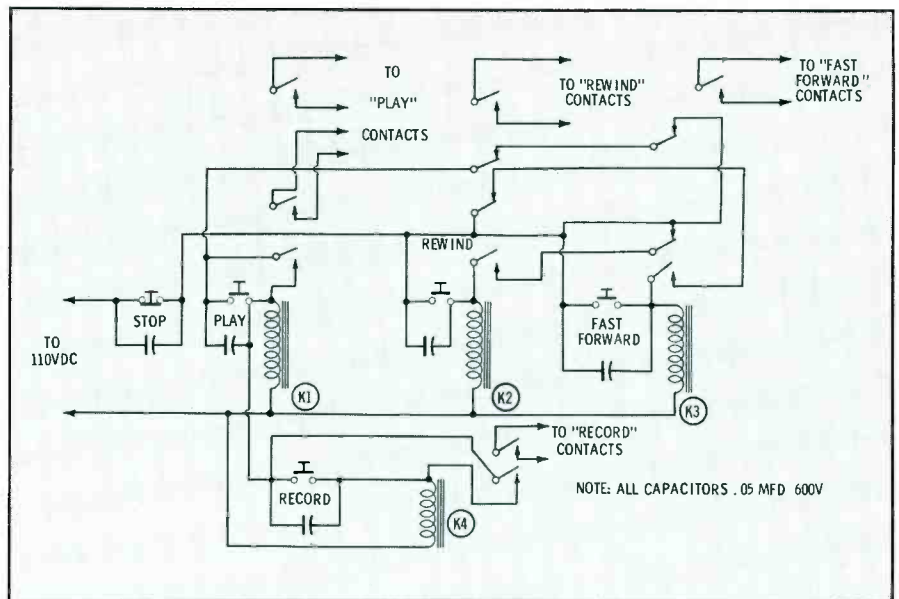

Fig. 2. Latching relay circuits that can be used to replace recorder bank of pushbuttons.
- of the oscilloscope. Adjust the potentiometer of the multivibrator to obtain a waveform similar to the one shown in Fig. 2.
Some machines use latching push-buttons to control tape motion, and these sometimes wear out with hard use. They may be replaced with original equipment, or with the relay circuit shown in Fig. 2. Most machines have a 110-volt DC supply from which power for the relays may be taken. Be sure you have the correct contact configuration on your relays, even if you have to